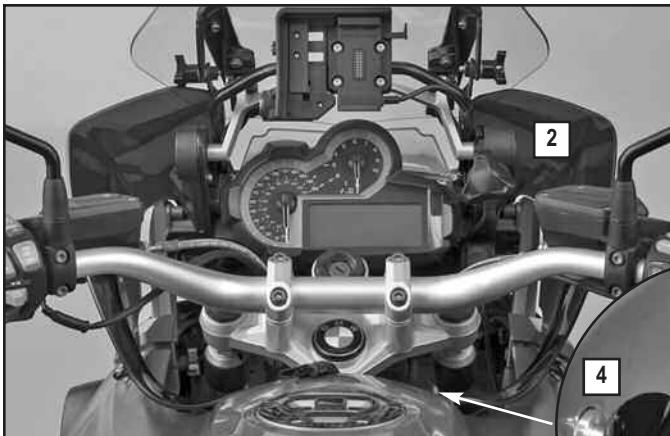

Figure 5
4. Place one Compression Limiter (4) into the rear hole on tank as shown in figure 5. **Figure**
5. Insert Screw (5) into Cap with Washer (3,7).
Install Winglet (2) using this assembly. **(3mm Hex Key) Figure 5**